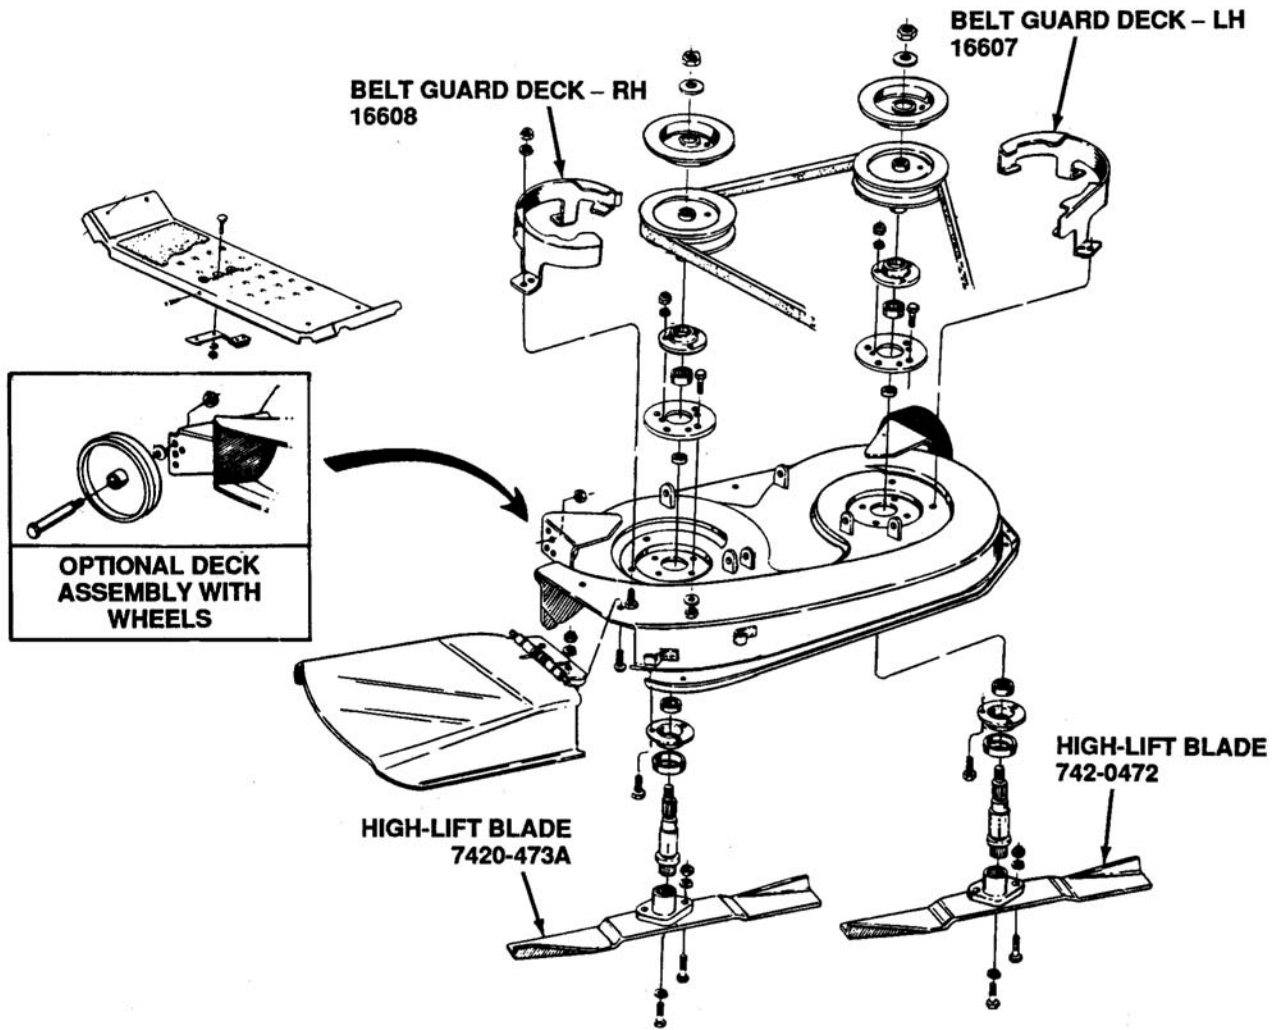

Figure 12-36. 38-Inch High Vacuum Deck
- 12-9.1 The high vacuum 38-inch side discharge deck features a special vacuum lift blade which creates increased air flow for superior grass ejection and collection. This deck will accept the 063 twin bag grasscatcher and is interchangeable with units produced prior to 1990 with 805 decks. See Figure 12-36.